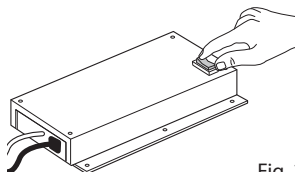

Fig. 2
- The red reset button on the electrical system box is pressed. (Figure 2)